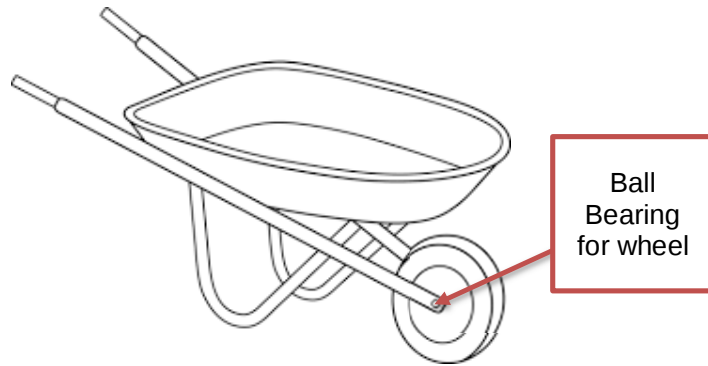

Fig. 3.1
- 3 (a) Fig. 3.1 shows a wheelbarrow for gardening use.
- (iii) Explain why it is important to use a ball bearing for the wheel in Fig.3.1.